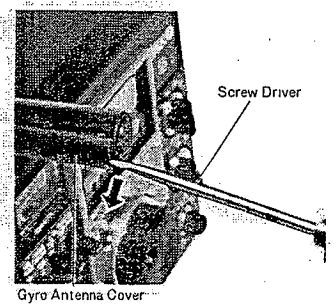

Fig. 19
1. Remove the gyro antenna cover in the direction of arrow, as shown in fig. 19.